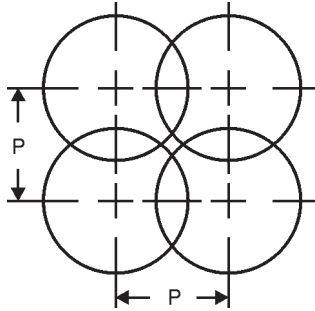

Figure 14. Compaction Coverage with 50% Radial Overlap
3. When the surface has become fairly level, the vibrator head then should be immersed and generally moved in the pattern shown in (Figure 14).